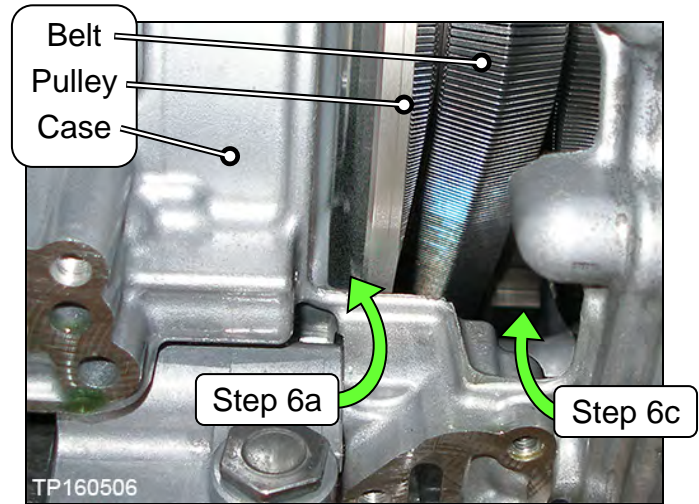

Figure 3A
- a. Insert the camera lens between the CVT case and pulley where shown in Figures 3A and 4A.
- Insert the lens approximately seven (7) inches, and then view the side of the belt that contacts the pulley.
- Insert the camera lens in the second location where shown in Figure 3A and 6A, and then perform step 6b again.